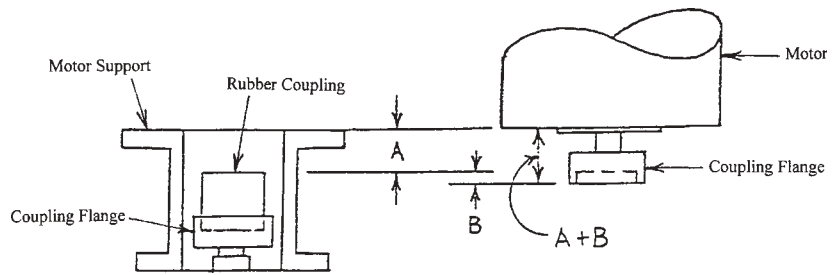

Figure 4.3 - Rubber Coupling Engagement
- k. Measure the distance from the top surface of the motor support to the top surface of the rubber coupling ("A" dimension) and add to this dimension the depth of the groove ("B" dimension). This groove is where the rubber coupling engages. Record this dimension ("A" + "B"). See Figure 4-3.